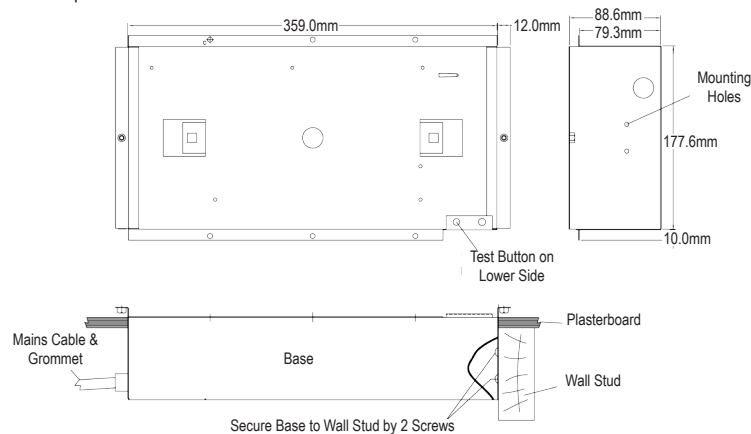

Figure 3
6. Mark, double check and cut out a hole size 182mm height x 365mm width in the wall. See figure 3.